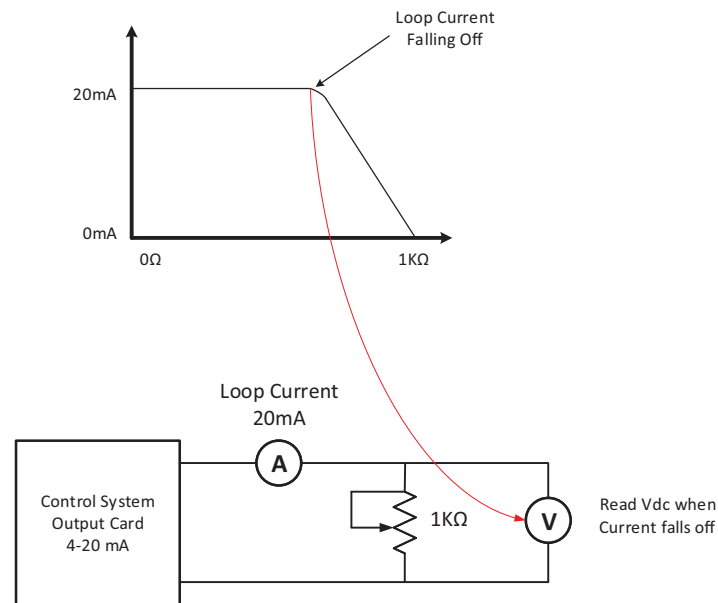

Figure 38 Compliance Voltage Test Setup
1. Configure a test setup as in Figure 38.